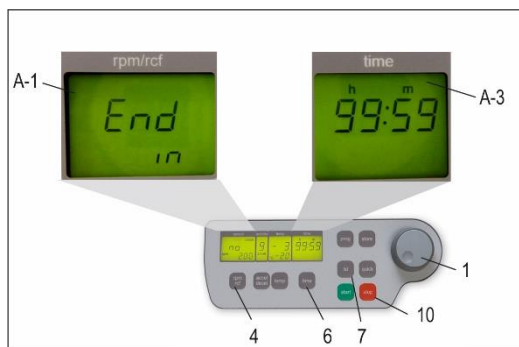

Figure 32
For all number marked text, please refer to Figure 32 and 33.
- **Take the delivered box spanner, put it into the hole, and lock the box spanner, with the hexagon nut (see Figure 32).**